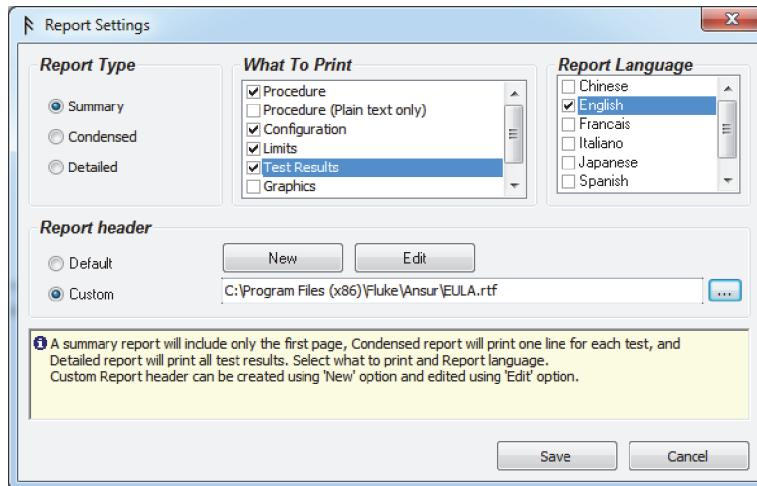

Figure 3-11. Report Settings Window
1. Click **File | Edit report settings** on the main menu bar or click the **Edit report settings** icon (gear) on the main toolbar. The Report Settings window shown in Figure 3-11 opens.